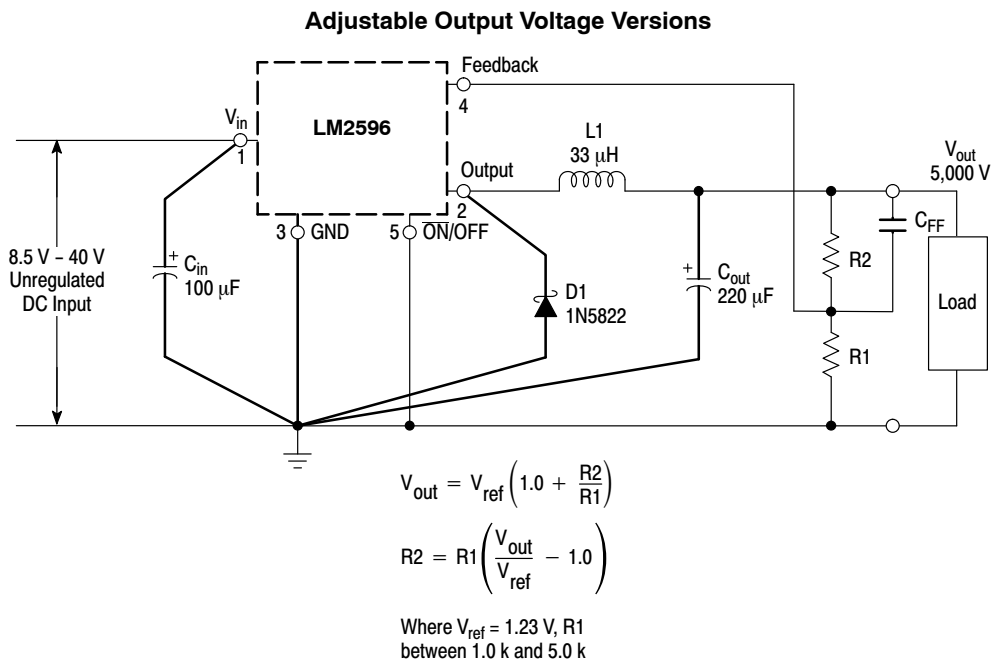

Figure 15. Typical Test Circuit
LM2596 (Note 1, Test Circuit Figure 15)
- External components such as the catch diode, inductor, input and output capacitors can affect switching regulator system performance. When the LM2596 is used as shown in the Figure 15 test circuit, system performance will be as shown in system parameters section.
TYPICAL PERFORMANCE CHARACTERISTICS (Circuit of Figure 15)
### TYPICAL PERFORMANCE CHARACTERISTICS (Circuit of Figure 15)
As in any switching regulator, the layout of the printed circuit board is very important. Rapidly switching currents associated with wiring inductance, stray capacitance and parasitic inductance of the printed circuit board traces can generate voltage transients which can generate electromagnetic interferences (EMI) and affect the desired operation. As indicated in the Figure 15, to minimize inductance and ground loops, the length of the leads indicated by heavy lines should be kept as short as possible.